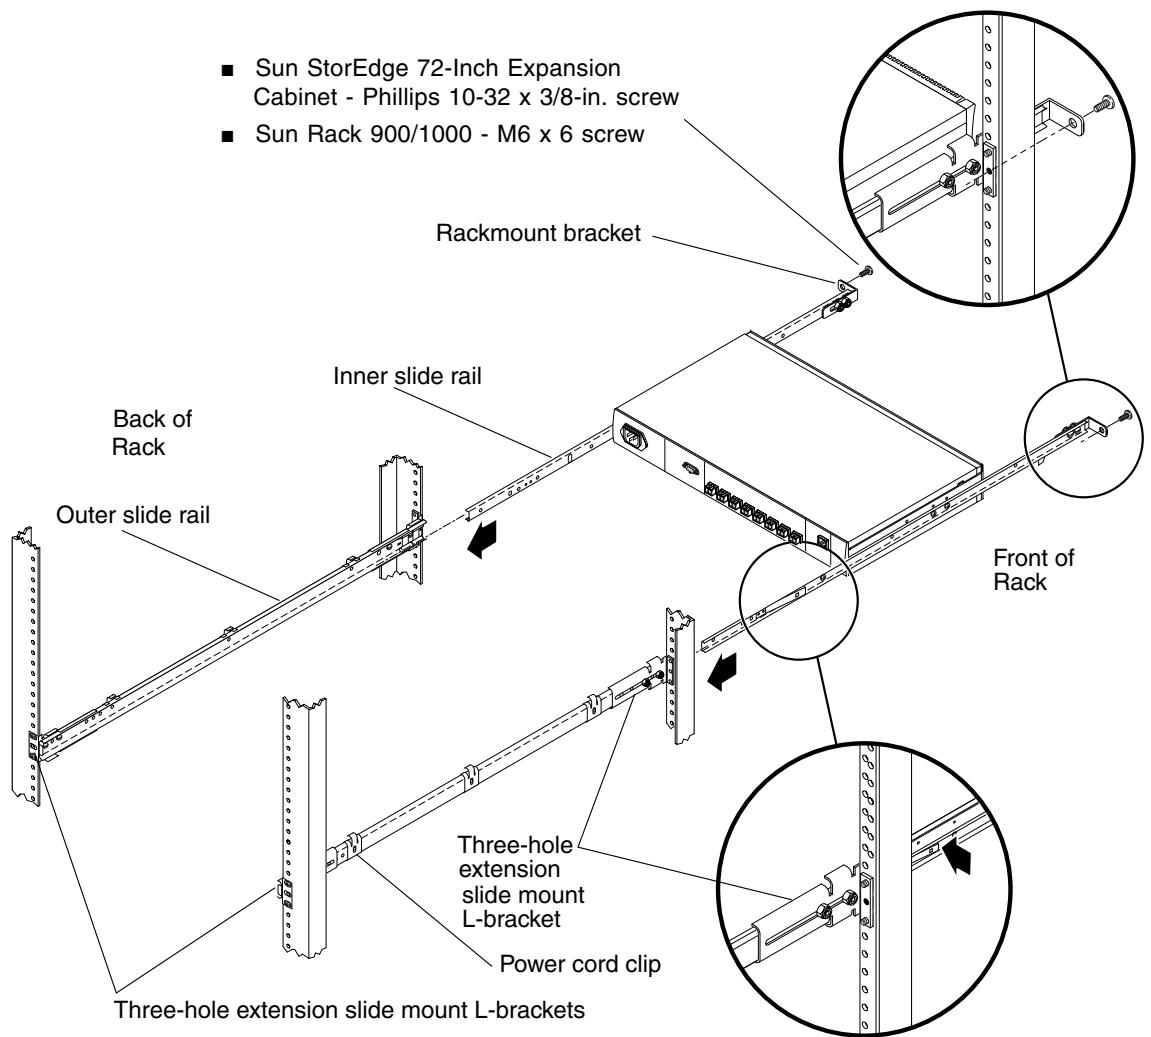

FIGURE 1-2 SilkWorm 3200, 3250, and 3850 Switch and Outer Slide Rail Installation
- a. See FIGURE 1-2. Insert two of the slotted head 8-32 x 3/8-inch screws per L-bracket, with the screw heads on the inside of the slide rails and a lock nut on the end of each screw.
- b. Position the outer slide rail in the rack and adjust the L-brackets to accommodate the depth of the cabinet. Refer to FIGURE 1-2.**
To allow the SilkWorm 3200, 3250, or 3850 switch to slide out of the front of the rack, orient the rail as shown in FIGURE 1-2, with the closed end of the slide rail toward the back of the rack.
- d. Attach the L-bracket on the front end of the outer slide rail to the corresponding rack vertical rail, using two of the Phillips 10-32 x 3/8-inch screws. See FIGURE 1-2.**
- a. Position the switch next to the rack as shown in FIGURE 1-2, and insert the inner slide rails into the outer slide rails.
2. Attach the rackmount brackets to the vertical rack rails using one Phillips 10-32 x 3/8-inch screw per bracket, tightening the screws to a torque of 25 inch-pounds (28.8 cm-kgs). See FIGURE 1-2.
- a. Place the power cord clips on the outer slide rails. See FIGURE 1-2.